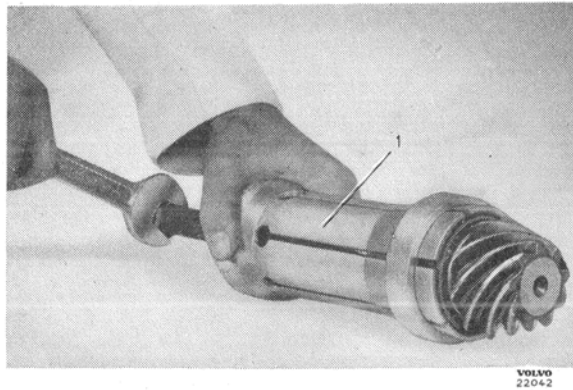

Fig. 26. Removing the rear pinion bearing.
11. Pull the rear bearing (26) from the pinion (16) if required, using puller SVO 2164, see fig. 26.